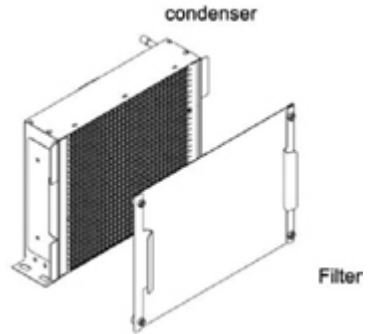

Fig. 8
- clean the filter mat (figure 8) mechanically with a brush or by a vacuum cleaner, removing dust, packaging waste, etc.;